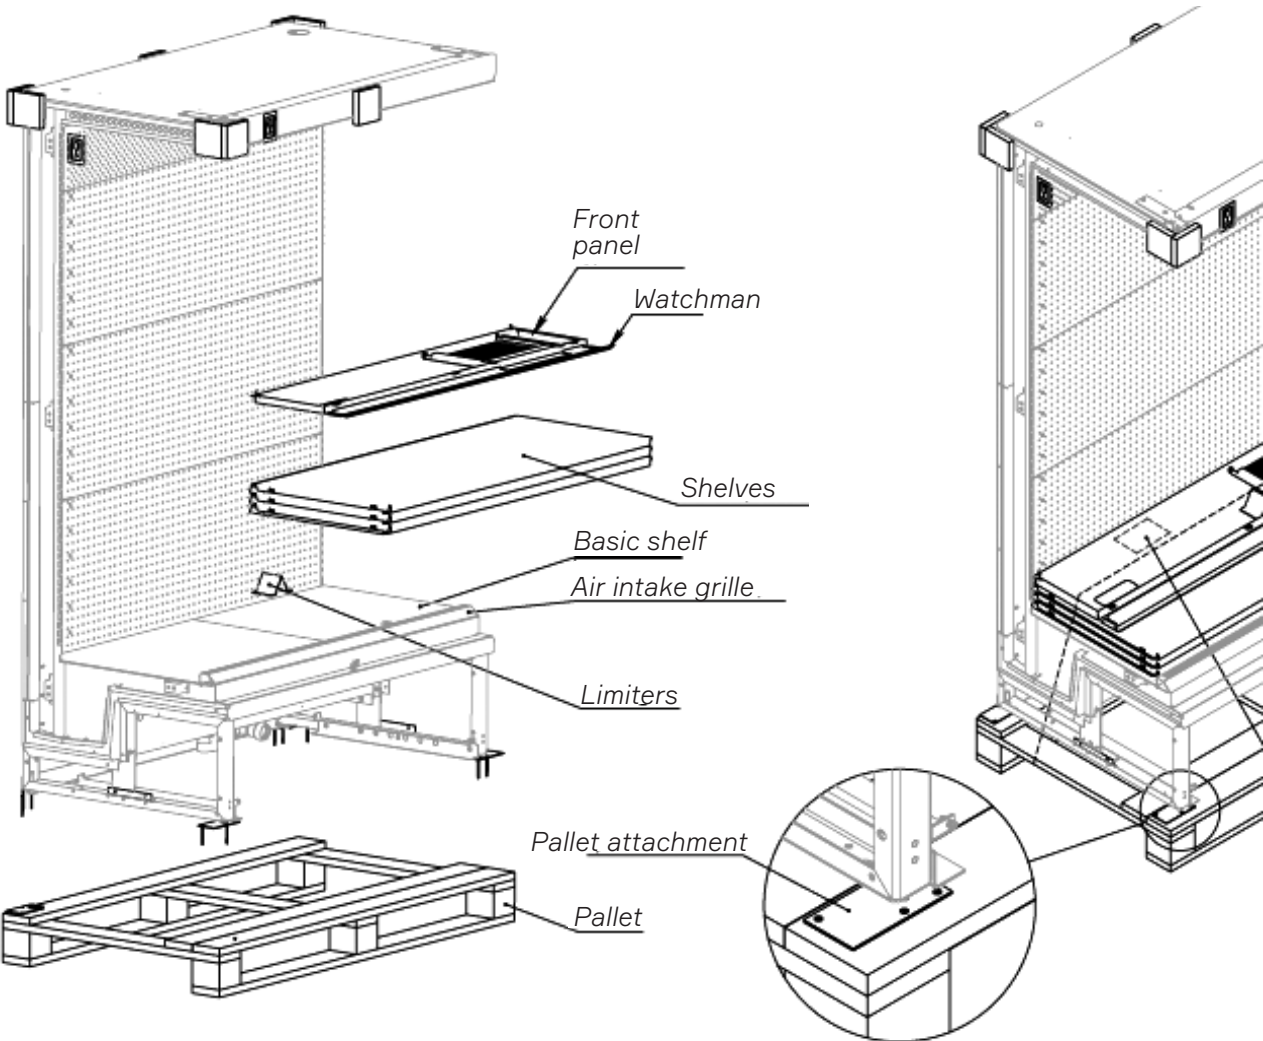

Fig. 12. Assembly and disassembly of the multideck
- remove the components out of the multideck (Fig. 12);